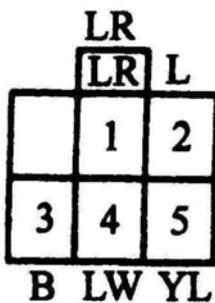
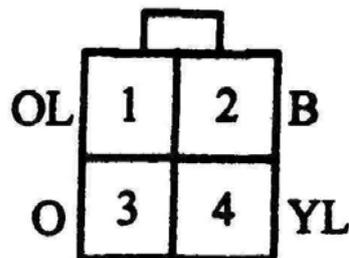

Fig. 17-10
Fig. 17-11
- ③ Check the wiper motor armature for damage, and commutator brushes for contact condition. Check the front wiper for continuity of terminal 3-ground, terminal 4-ground (Fig.17-10). Check the rear wiper for continuity of terminal 3-ground (Fig.17-11).
Connect the battery positive pole to terminal 3 (shown in Fig. 17-11) and the negative pole to the gear box, the motor should rotate in a speed ranging from 48r/min to 60r/min.
Connect the battery positive pole to terminal 1 (shown in Fig. 17-10), the negative pole to the gear box and connect terminal 2 to 3 using a jumping lead. Check the motor shaft for returning to the specified position. Check the motor shaft for returning to same position when starting and stop the motor for several times
Connect the battery positive pole to terminal 1 (shown in Fig. 17-11), the negative pole to the gear box and connect 2 to 3 using a jumping lead. Check the motor shaft for returning to the specified position..